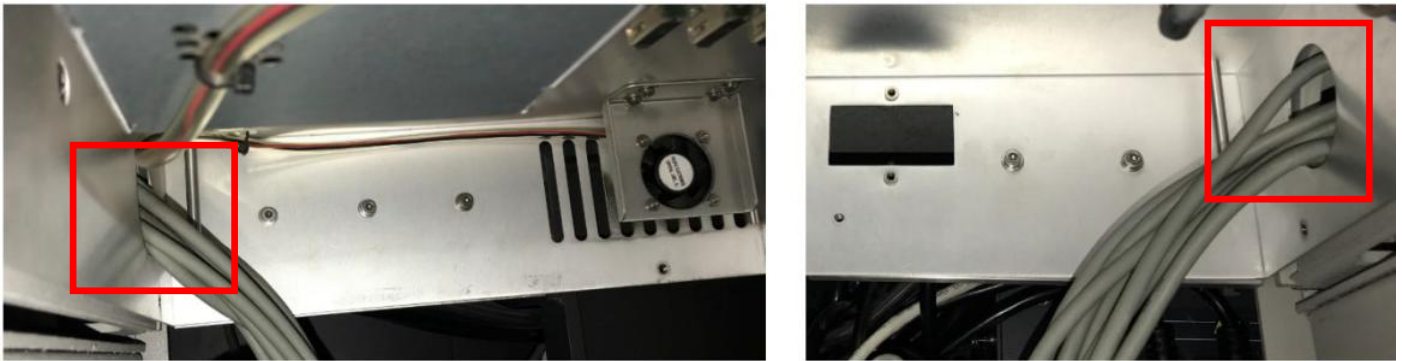

Figure 26 Retrieve 14 X Fire Wire
9. Gently pull 14 x Fire Wire into both tray opening as below Figure 26